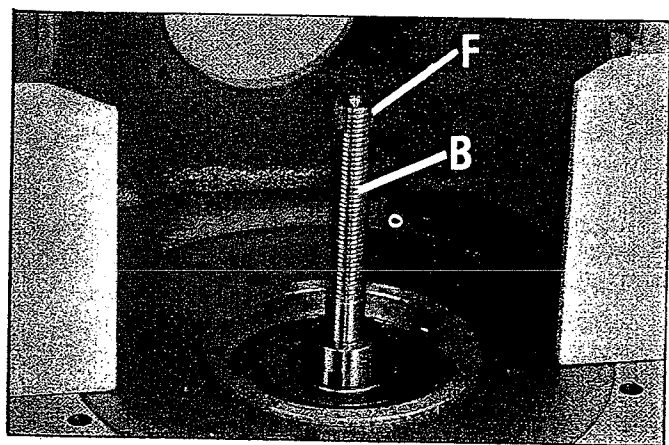
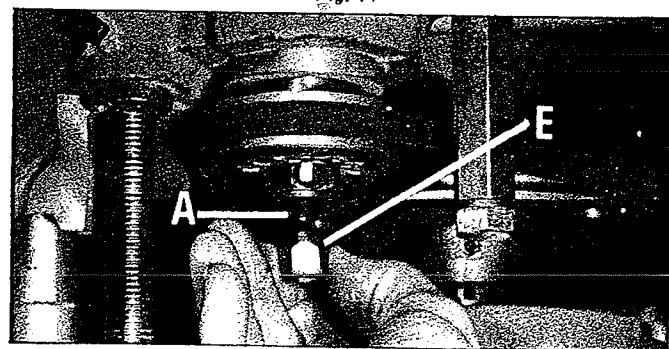

Fig. 11
Fig. 12
3. Fig. 11, illustrates the spindle (B) inserted into the spindle cartridge.
4. Thread nut (E) Fig. 12, onto bottom end of tie rod (A).
5. Place wrench on flats (F) Fig. 11, on top of spindle and tighten nut (E) Fig. 12, on bottom of tie rod to fasten spindle to spindle cartridge.